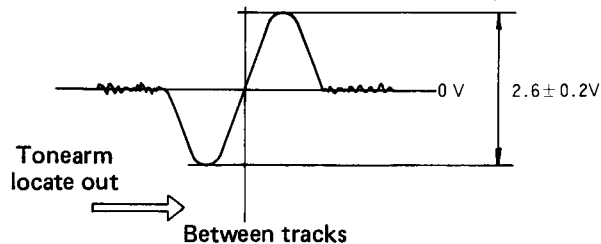

Fig. 9.5 Oscilloscope Waveform Display
6. The waveforms shown in Fig. 9.5 should be obtained in the inter-track sections between tracks 8 and 9, and 10.